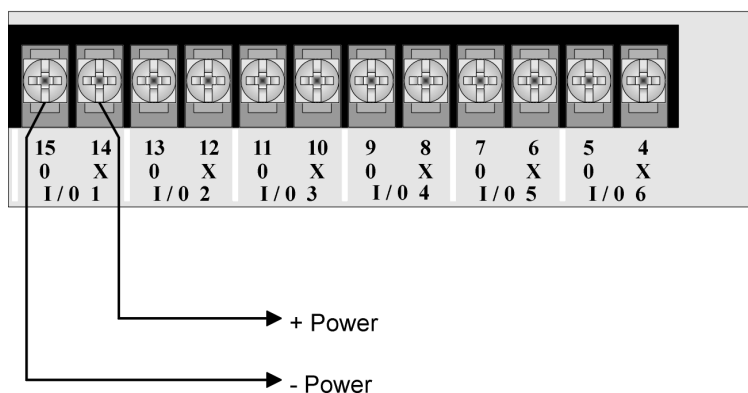

Figure 3-16 Flexput Circuits Used as Auxiliary Power
1. Wire the Flexput circuit(s) that will be used for auxiliary power. See Figure 3-16 for location or Flexput circuits.